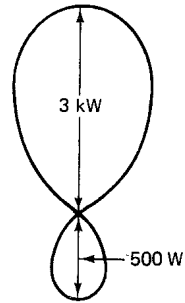

Fig. 6-24
- 6.12 Determine the front-to-back ratio of an antenna which puts out 3 kW in its most optimum direction and 500 W in the opposite direction. See Fig. 6-24.